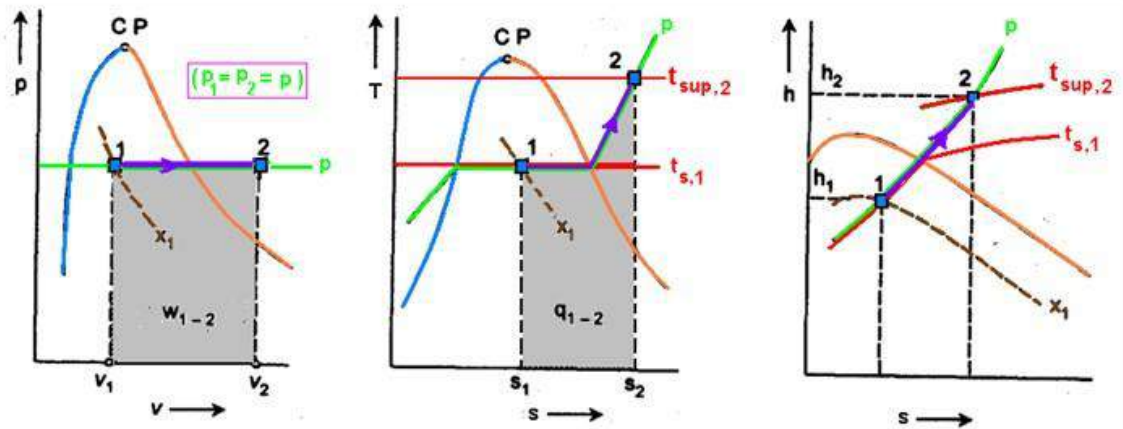

Fig. 22.1. Constant pressure heating process of steam
- (a) **p-v, T-s, and h-s Representation.** Assume that steam undergoes a constant pressure heating process from its initial state to final state. Let the initial condition of steam be in the wet region as point 1 at pressure p_1 having dryness fraction x_1 and the final condition in the superheat region as point 2 at pressure $p_2 (= p_1)$ and super heating temperature $t_{sup,2}$ as shown in Fig. 22.1 on p-v, T-s and h-s diagrams.